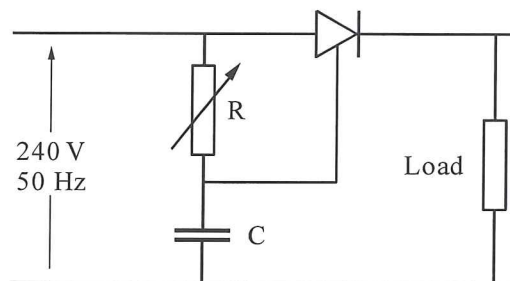

Fig Q8
7. (a) State TWO advantages and TWO disadvantages of the wound rotor induction motor starting method. (4)
- (b) Sketch a circuit diagram showing the rotor/slip rings/starting resistor connection for a 3 ph wound rotor induction motor. (6)
- (i) the rotor phase e.m.f. and frequency at a slip 0.04 p.u.; (4)
- (ii) the synchronous speed. (2)
8. (a) State the conditions necessary to *turn on* and *turn off* a thyristor (silicon controlled rectifier). (4)
- (b) Describe the operation of the circuit shown in Fig Q8. (8)
- (i) 45° ; (2)
- (ii) 120° . (2)